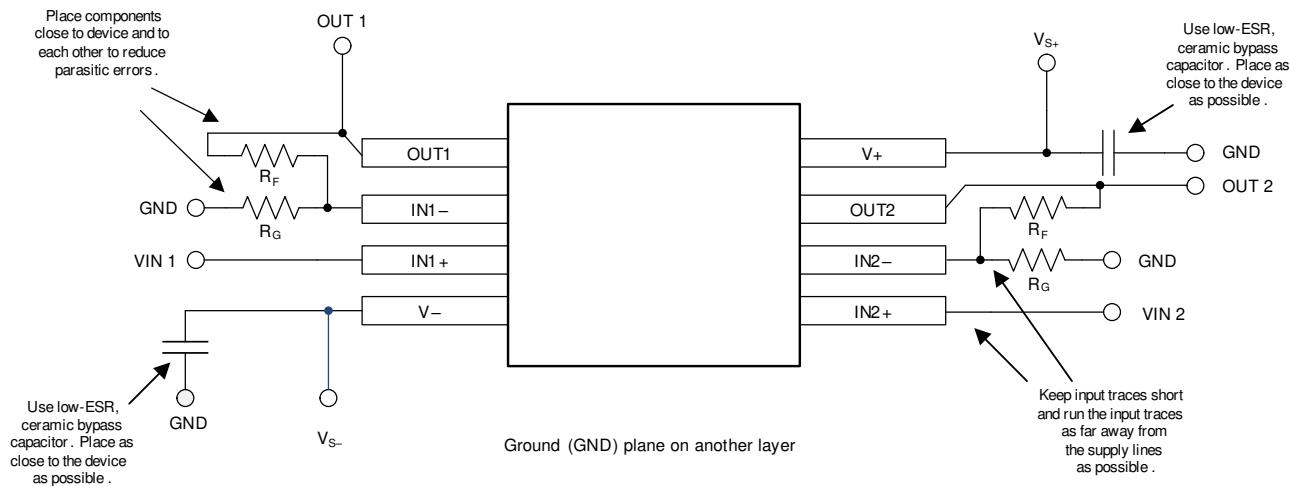

Figure 42. Layout Example
- Place the external components as close to the device as possible. As illustrated in Figure 42, keeping R_F and R_C close to the inverting input minimizes parasitic capacitance on the inverting input.